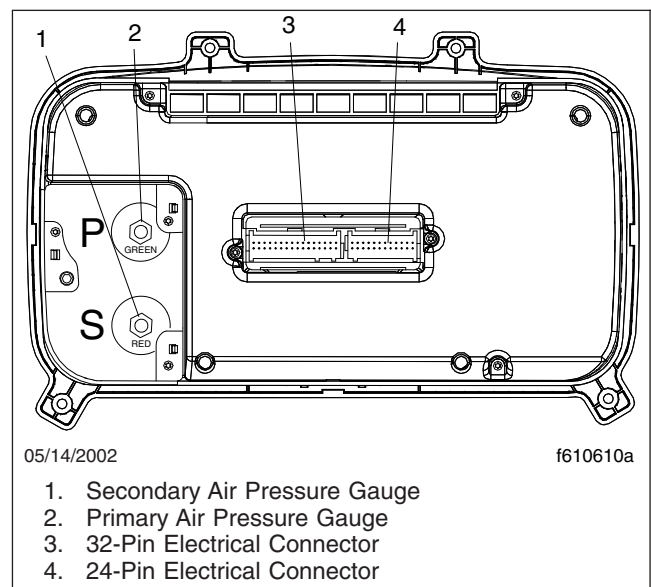

Fig. 3, ICU3S, Rear View
- Disconnect the two electrical connectors from the back of the ICU3S. See **Fig. 3**.